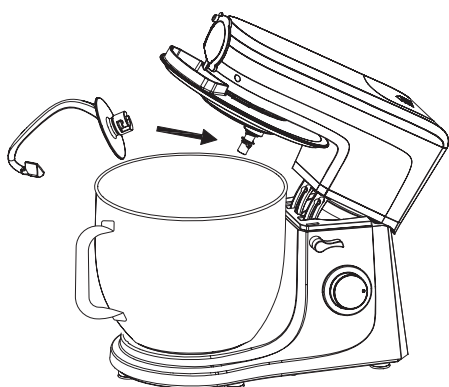

Fig4
6. Install the required accessories (5), (6) or (7) (only one of the three can be used at a time) onto the head mixing output shaft (1), push the accessories to the top, and then turn a quarter turn counterclockwise to the locking position. (Fig4&5)